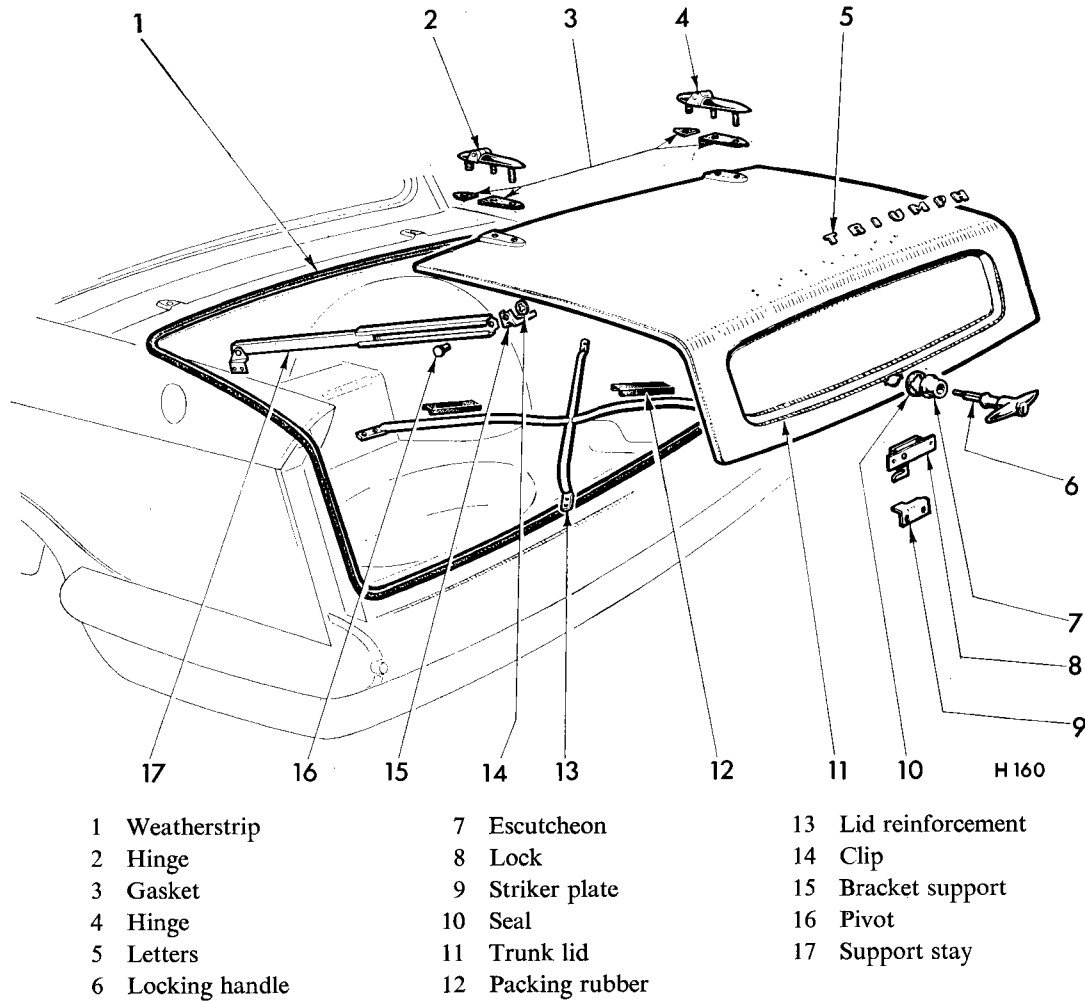

Fig. 28. Luggage compartment details
Remove the luggage compartment lock striker plate (two screws, item 9, Fig. 28). Take out 12 acme hex/headed screws and remove the rear valance.
To Remove (Fig. 28)